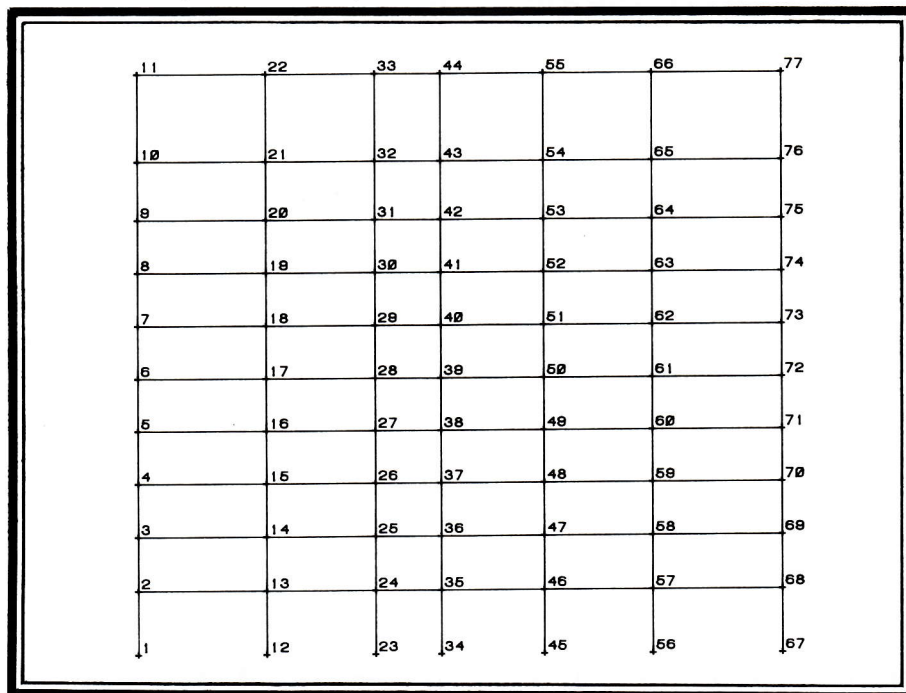

Figure 2 — 6-Bay Plane Frame Structure
A) The 2-D Beam Member: used in the analysis of frame structures loaded in their plane. Distributed and concentrated member forces are considered. A typical example of a plane frame structure using 2-D beam elements is shown in Figure 2.